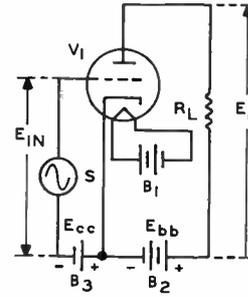

FIGURE 13
8. The amplifying action of the circuit of Figure 13 results in an output voltage  $E_O$  which